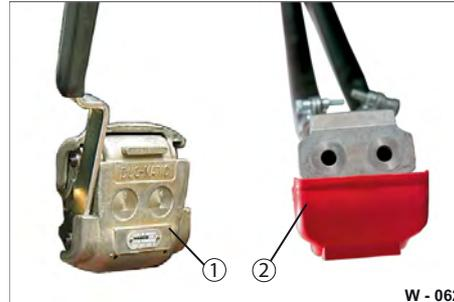

Fig. 62 Coupling head disassembled
- ▶ Clean the sealing surfaces of the coupling head (Fig. 62/2) and the coupling socket (Fig. 62/1) with a clean, dry cloth.